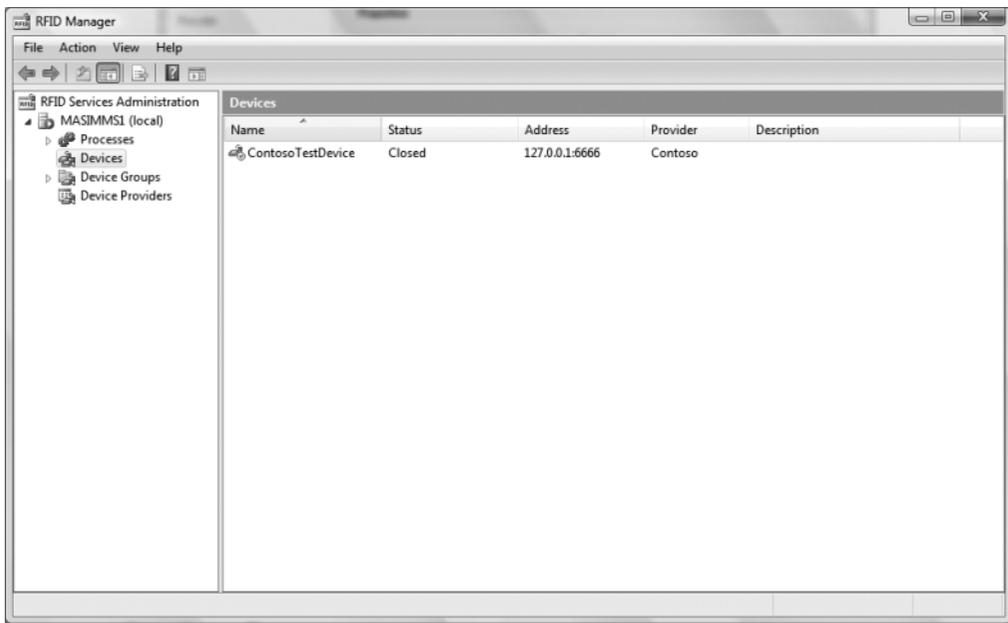

Figure 3-9. Device added to BizTalk RFID
10. From the Completion dialog, click Finish to complete the process of adding the device. The device should now be visible in the Devices list in RFID Manager, as shown in Figure 3-9.